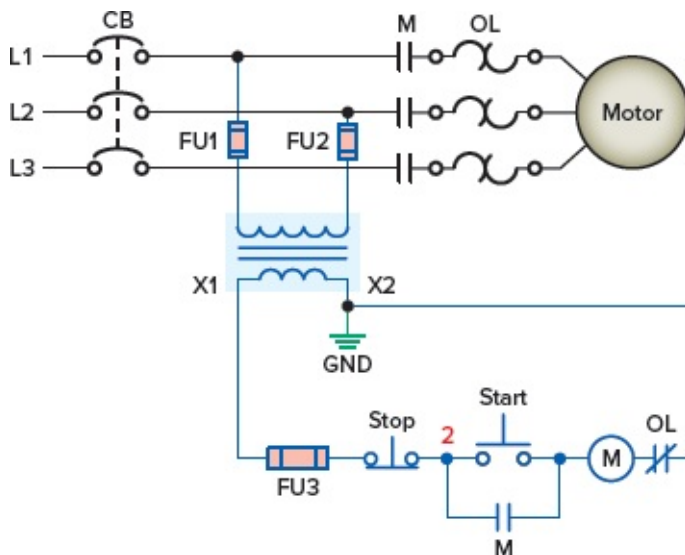

Figure 3-42 Circuit for review question 5.
5. For the motor control circuit of Figure 3-42, assume the circuit is *incorrectly* grounded at X1 instead of correctly grounded as shown at X2. With this incorrect connection, explain how the control circuit would operate if point 2 of the stop or start push button were to become accidentally grounded.